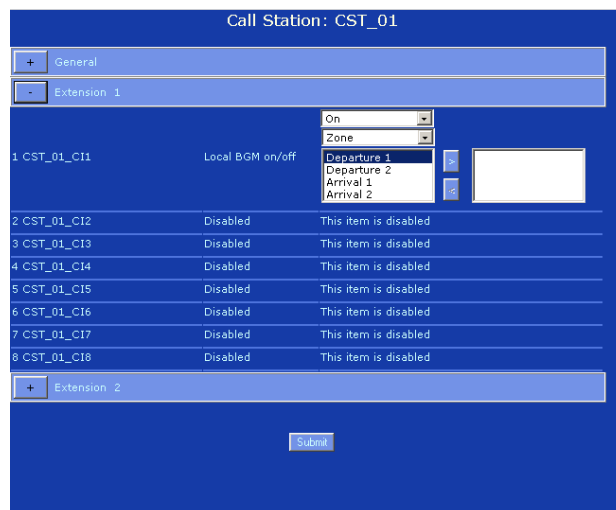

figure 38.48: Local BGM on/off, step 3
- 3 Click the *Extension* that contains the key that must be configured. A screen similar to the one in figure 38.48 appears in the main frame of the web interface.